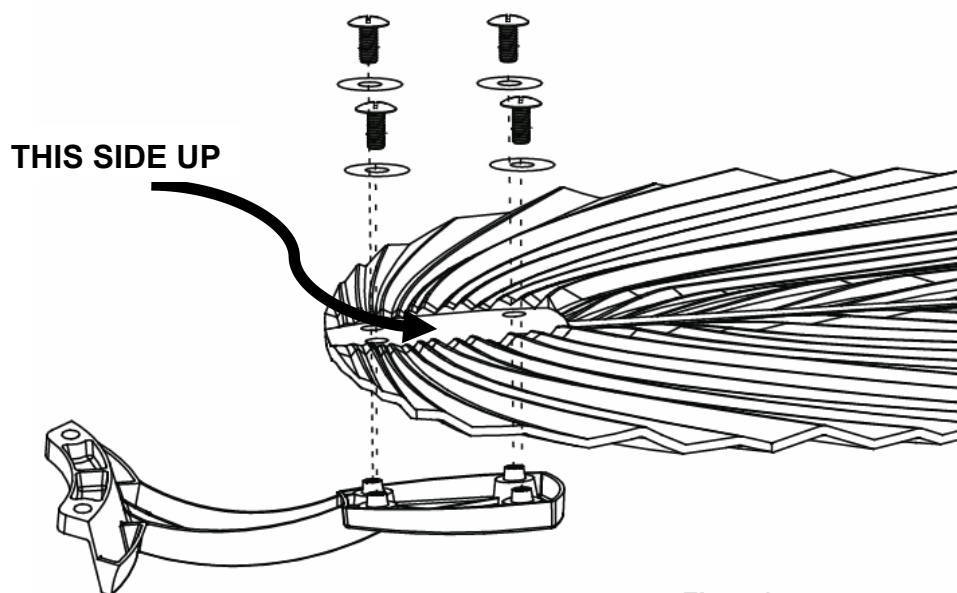

Fig. 5.1
1. Assemble the fan blades to the fan blade bracket by tightening the 4 blade screws and washers. Take note the correct side of the blades with the marking "THIS SIDE UP" is on the screw head side. (Fig. 5.1).